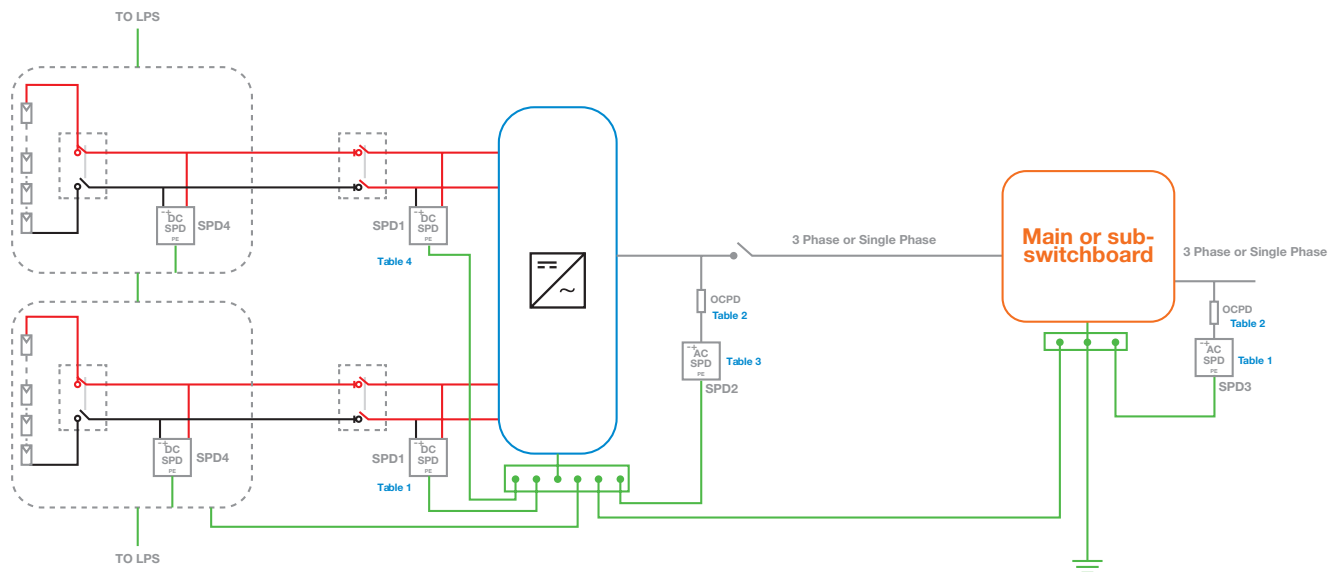

Figure 6. Electrical Schematic for Roof Mounted Panels with Building LPS
6. The protective earths of the SPDs and the frame earth of the inverter shall be bonded together and in turn connected to the main earth bar via the main switchboard as in figure 6. 16mm² cable is suitable.
The following tables list the Novaris products that are most suitable for the applications as referenced in Figure 6.